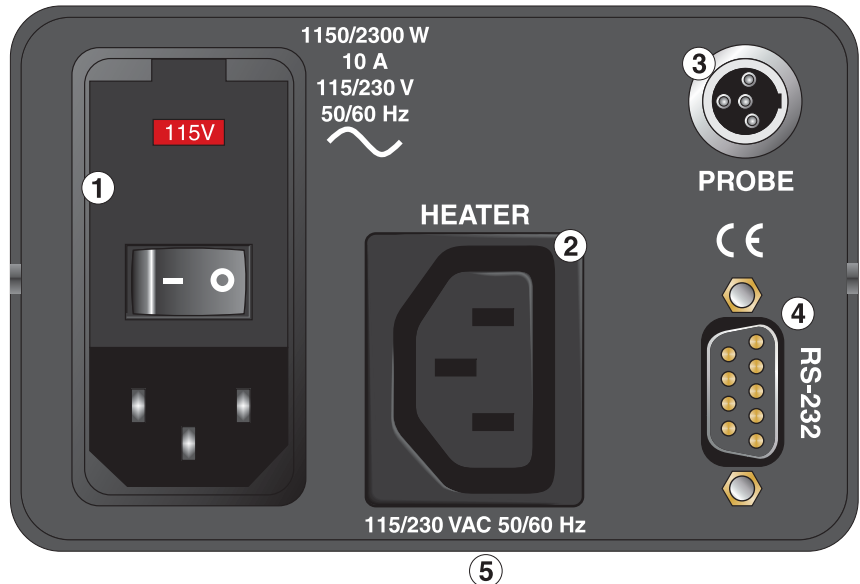

Figure 4 Back Panel
The following features are found on the rear panel of the controller: (1) the power entry module, (2) the heater power connector, (3) the control probe input connector, and (4) the RS-232 interface connector (see Figure 4).
(1) The power entry module includes: (A) the IEC power line connector, (B) the ON/OFF switch, (C) the voltage selector with indicator window and two fuses. The unit is shipped from the factory with fuses as listed in the specifications (Section 2.1 on page 9). Additional information on fuse usage is in Section 4.5.
WARNING: The output voltage to the heater socket (item 2 in Figure 4) is the same as the input voltage of the power entry module (item 1 in Figure 4).
(C) The power entry module is provided with a dual voltage selector integrated into the fuse holder. The controller has been specially designed to allow either 115 or 230 VAC operation. The voltage indicator window notifies the user of the voltage selected. See Figure 4.